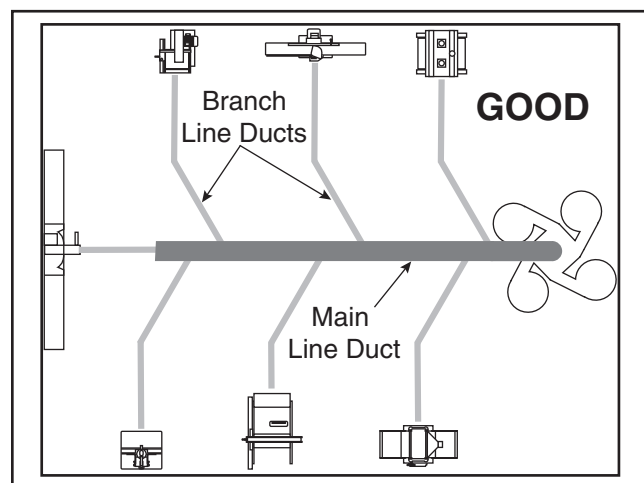

Figure 21. Good duct layout.
2. An ideal design will feature the shortest possible main line and secondary branch ducts. See **Figures 21 & 22** for ideas of good duct layouts vs bad duct layouts.